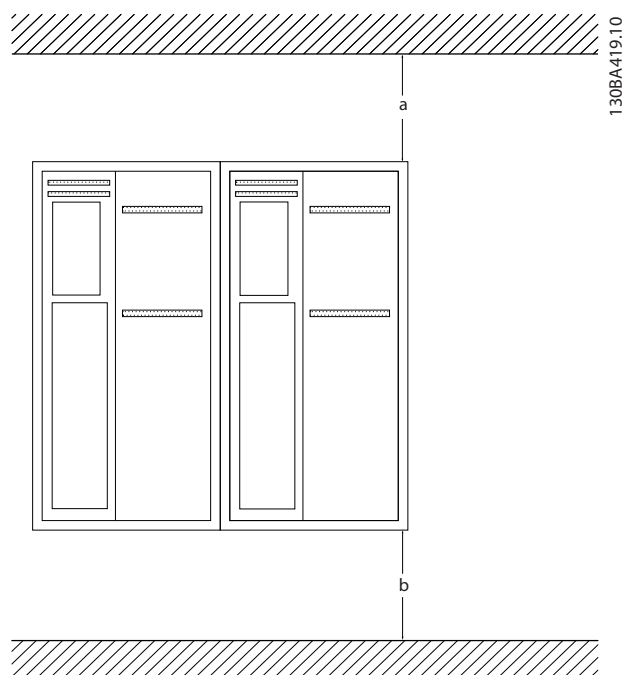

Figure 2.1 Top and Bottom Cooling Clearance
- Top and bottom clearance for air cooling must be provided. Generally, 100–225 mm (4–10 in) is required. See Figure 2.1 for clearance requirements